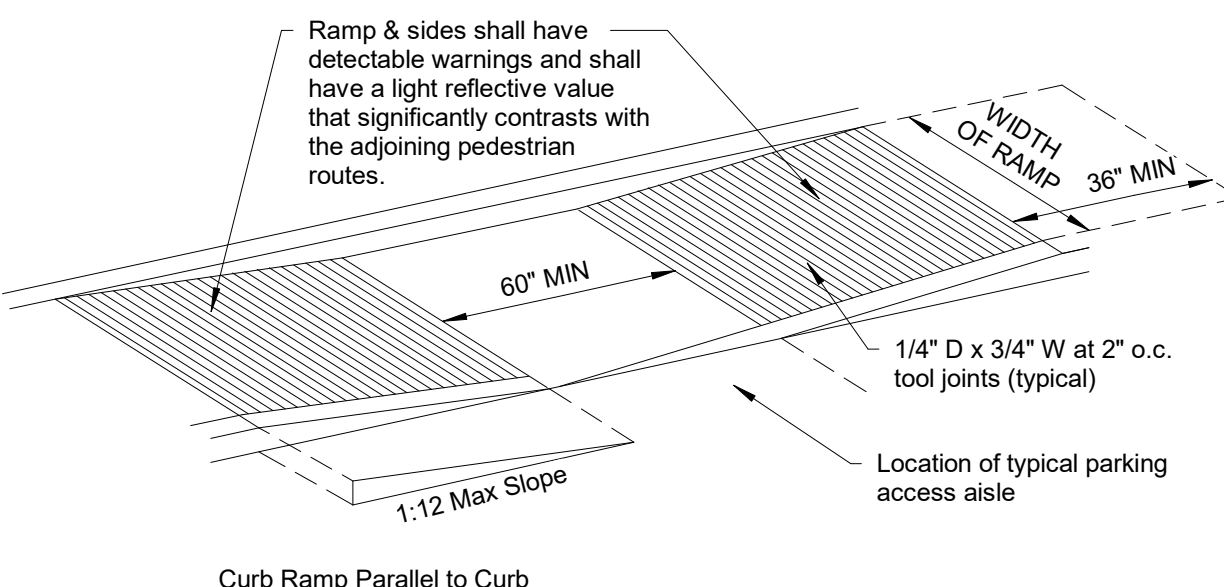

Figure 406.4 Landings at the top of curb ramps
A. Landings shall be provided at the tops of curb ramps. The landing clear length shall be 36" minimum. The landing clear width shall be at least as wide as the curb ramp, excluding flared sides, leading to the landing. (Fig. 406.4)